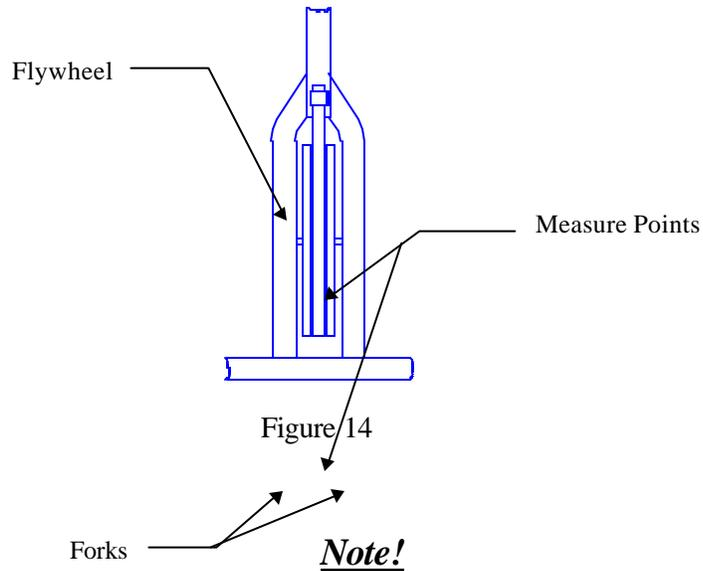

Figure 14
6. Before tightening axle nut "B", the flywheel must be aligned. Alignment requires measuring the distance from one side of the flywheel to the inside edge of the fork tube (Figure 14). Measurement should be taken at the top and bottom of the flywheel. These distances should be about the same (difference should be no greater than 1/8 inch).
7. If the flywheel is out of alignment, be sure **axle nut "B"** is loose. Next, pull the top of the flywheel to either side until the measurements on the top and bottom of the flywheel to the fork fall within the 1/8 inch tolerance (Figure 14).